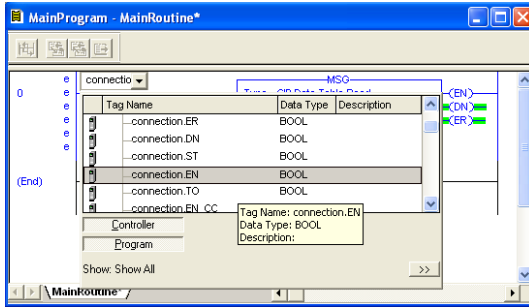

Figure 56: Configure XIO Element
- a) Double-click on the XIO element located to the left of the MSG block. In the drop-down box, double-click on the “connection.EN” field. Refer to Figure 56. This configuration causes the MSG instruction to automatically retrigger itself when it completes. While this is acceptable for the purposes of this example, it can produce high network utilization. In actual practice, it may be desirable to incorporate additional logic elements to allow triggering the MSG instruction at a specific rate or under specific conditions.